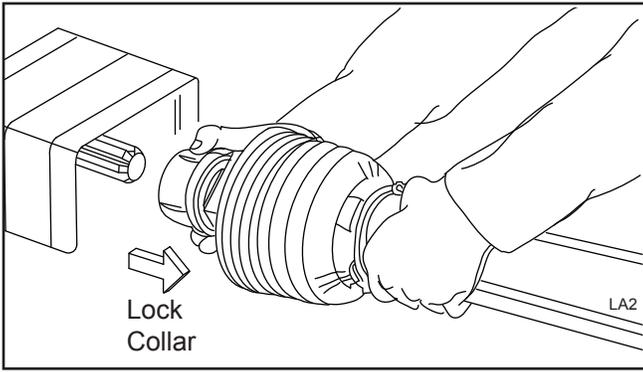

Figure 2. Lock Collar Connection
4. Slide lock collar back (Figure 2) or push lock pin in to make connection.